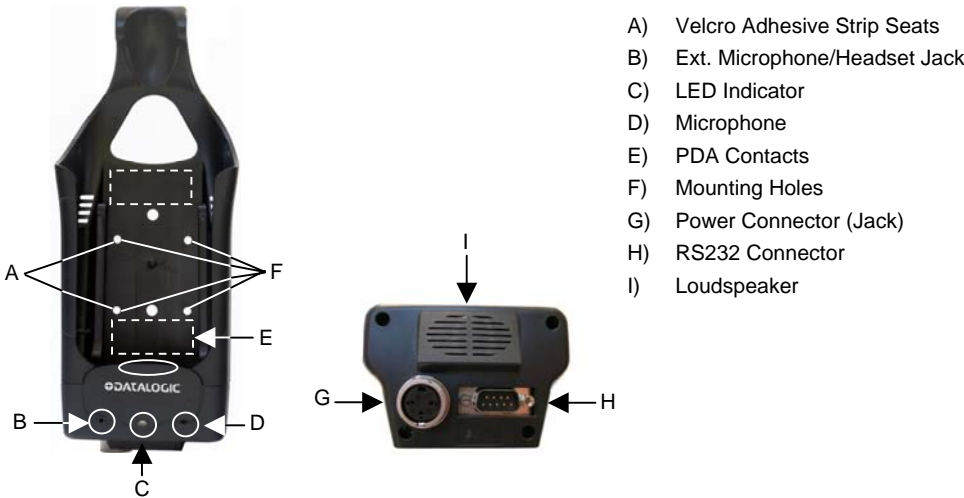

Figure 1 – Datalogic J Series™ Vehicle Cradle
2. Carefully clean the adhesive strip seat of the rear of the cradle (see Figure 1) to remove any impurities that could reduce adhesion;